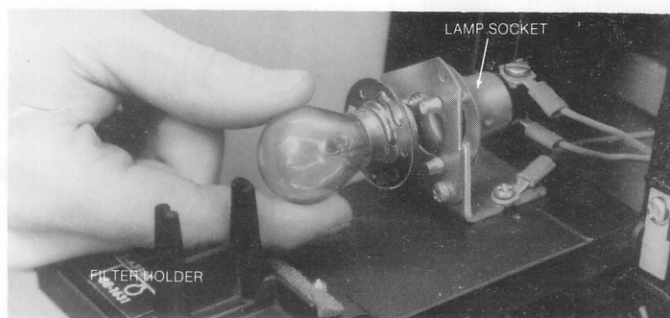

Figure 6. Lamp Replacement
d. Using finger pressure, press the lamp socket toward the mounting flange (see Figure 6). Rotate the lamp counter-clockwise and remove.